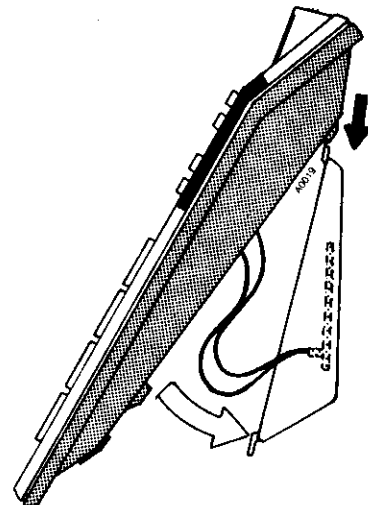

Figure 7 SECURING TELEPHONE INTO MOUNTING KIT, EK-616
- Connect ribbon cord and assure ribbon cable terminals are facing connector terminals (Figure 7).
- Secure telephone into mounting-kit (Figure 7).